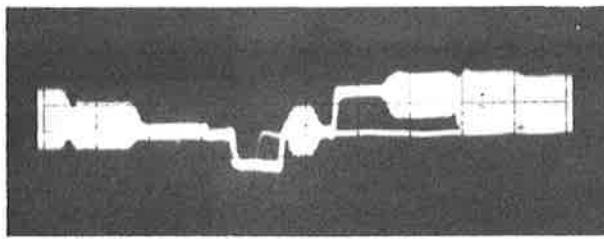

Fig. 24—Chroma Level
4. Adjust R3312 so that the p-p level of color reference burst is 1V p-p see Figs. 24 & 27.